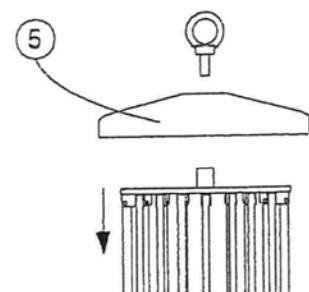

Fig. 9
- (Fig. 9) Mount the top disc (5).
- Close off with the strut cover plate (6).